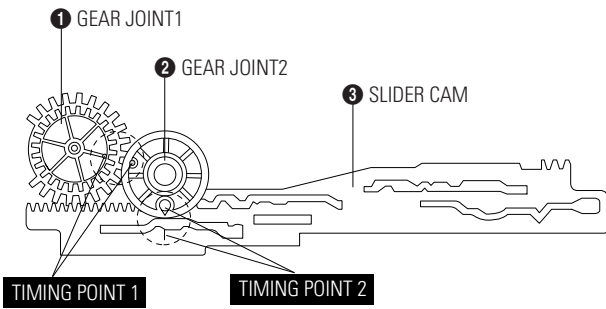

Fig. 3-19 Gear Joint 1,2 Assembly
- 1) Be sure to align dot mark of Gear Joint 1 ❶ with dot mark of Gear Joint 2 ❷ as shown Fig 3-19. (Refer to Timing point1)
- 2) Confirm the Timing Point 2 of the Gear Joint 2 ❷ and Slider Cam ❸.